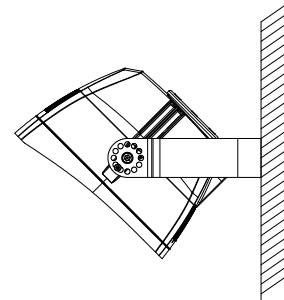

figure 3.4
Step 3: Loosen screw; Adjust fixture angles as per actual demands and tighten screws later. (figure 3.4), Tips: Angles of the fixture is adjustable.